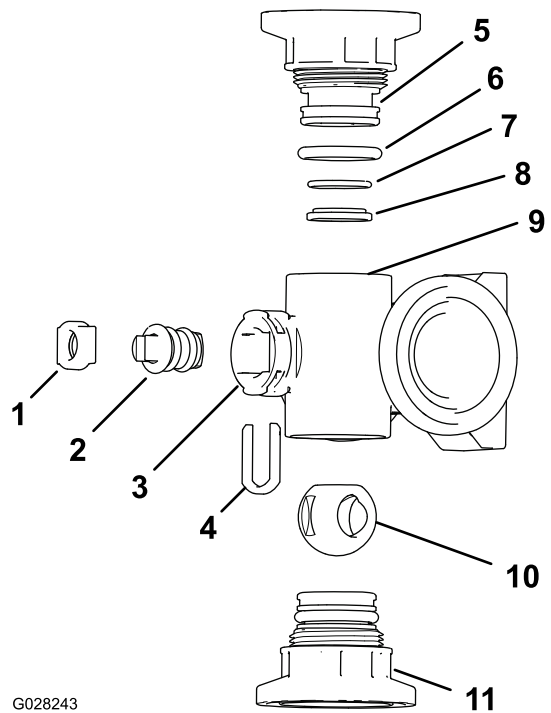

Figure 84
2. Remove the 2 endcap fitting assembly from each end of the manifold body (Figure 84 and Figure 85).
- Remove the stem retainer from the slots in the stem port in the manifold (Figure 84 and Figure 85).
- Remove the stem retainer and valve stem seat from the manifold (Figure 84 and Figure 85).
- Reach into the manifold body and remove the valve stem assembly (Figure 84 and Figure 85).
- Check the condition of the outlet fitting O-rings (section valve manifold only), endcap O-rings, back seating O-rings, ball seat for damage or wear (Figure 84 and Figure 85).
- Apply grease to the valve stem and insert it into the valve stem seat (Figure 84 and Figure 85).
- Install the valve stem and seat into the manifold and secure the stem and seat with the stem retainer (Figure 84 and Figure 85).
- Ensure that the back seating O-ring and the ball seat are aligned and seated into the endcap fitting (Figure 84 and Figure 85).
- Install the endcap fitting assembly onto the manifold body until the flange of the endcap fitting touches the manifold body (Figure 84 and Figure 85), then turn the endcap fitting an additional 1/8 to 1/4 turn.